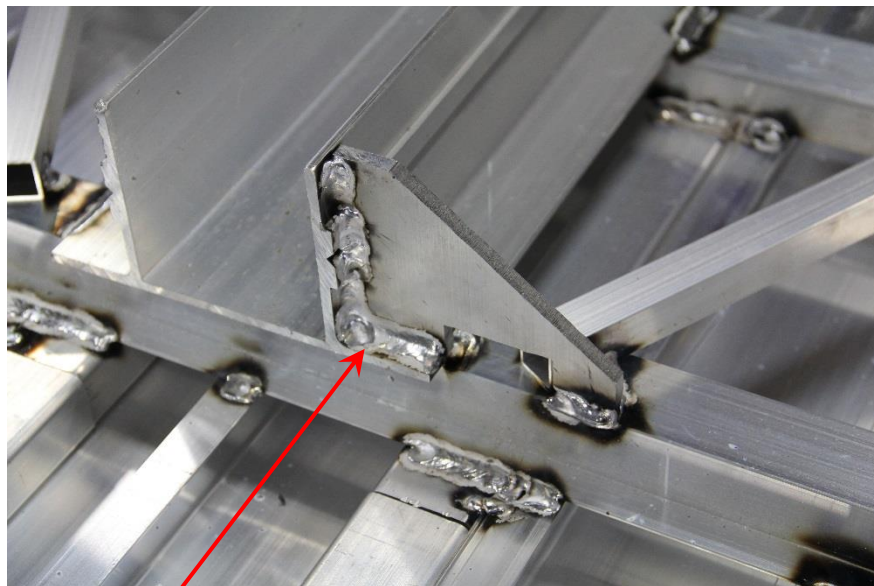

Figure 6
- 4.0 Add 2 gussets and .25" fillet weld as shown in Figure 6 and 7.